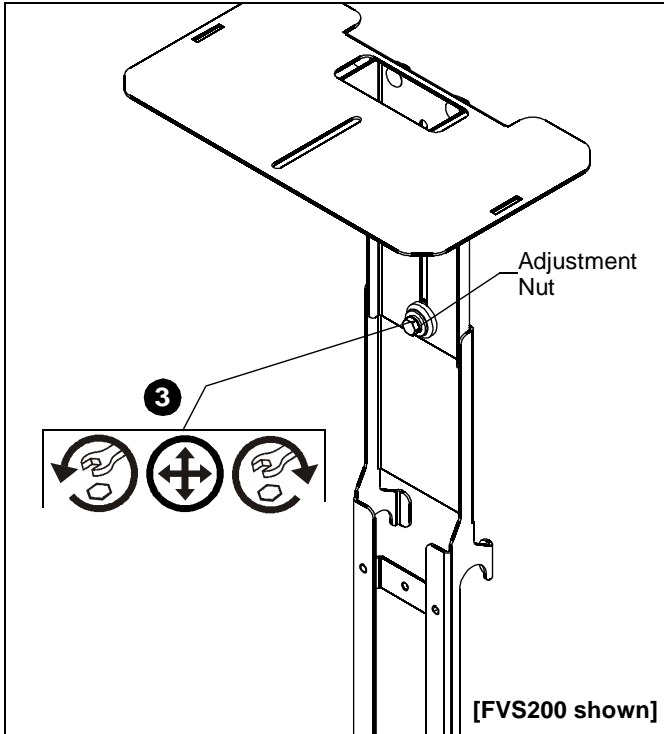

Figure 4
3. Adjust the shelf up or down on the shelf support (A) by loosening the adjustment nut, adjusting shelf to desired height, and tightening the adjustment nut. (See Figure 4)